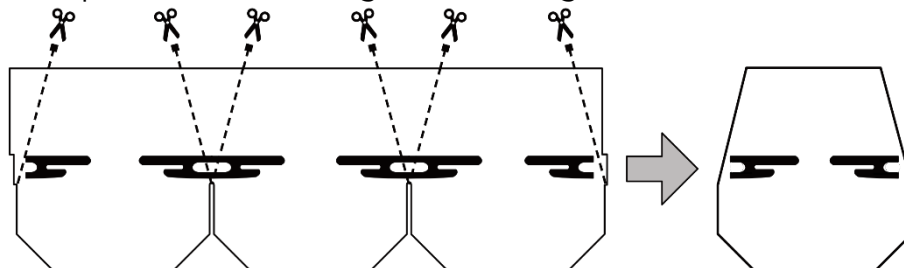

Fig. 10 - Ridge elements preparation
- Arrange the ridge elements by cutting an entire shingle into three pieces and shaping the top with a certain angle of cut - Fig. 10.